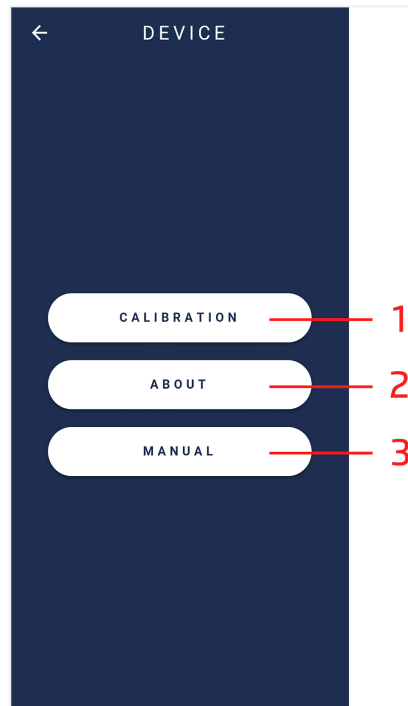
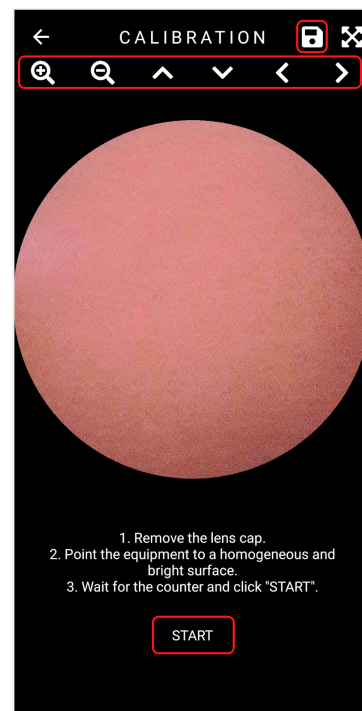
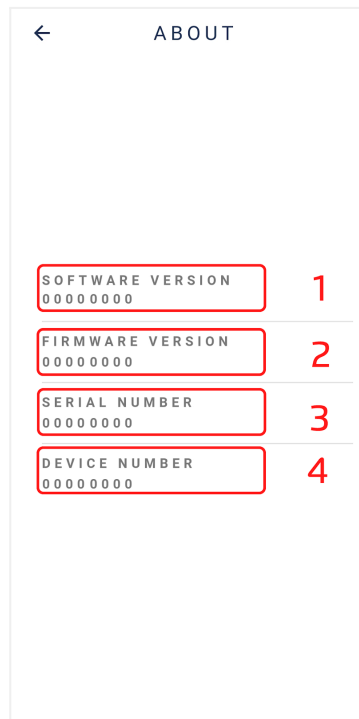

Figure 87: Technical information on the device
Figure 88: Mobile device calibration screen.
Figure 89: Device information
The option “device” contains information on the device, item 3, figure 76. When selected, there are three available options: 1. Calibration, 2. About, 3. User Manual, figure 87.
Click the option 1. “Calibration”, figure 87, to proceed to the screen as in figure 88.
- Activate the “start” button, figure 88, and wait for the device to make technical adjustments.
Access information on the device through the screen portrayed in figure 87, section 2. User will be directed to the screen in figure 89 which contains:
Access the user manual through the application "Manual", figure 11, section 3 or option 3, "Manual", figure 87.